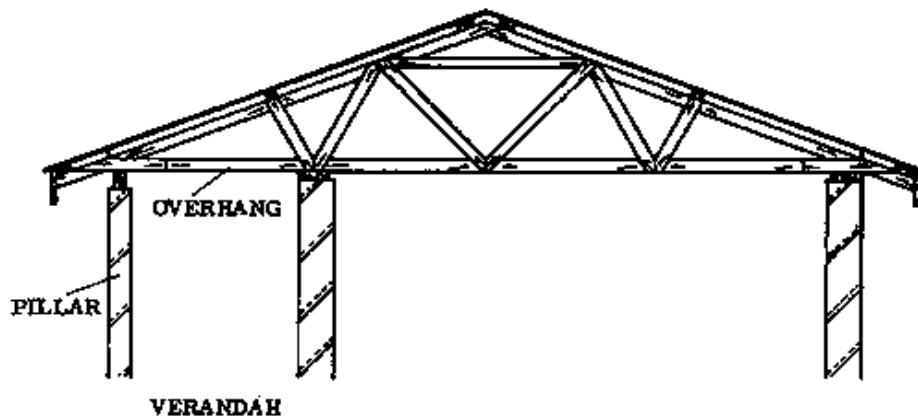

Fig. 1 EXTENDING THE TIE BEAMS
- By extending the tie beams to cover the verandah (Fig. 1)
- EXTENDING THE TIE BEAMS: The part of the tie beam that covers the verandah is called the overhang (Fig. 1). For a small overhang, supporting pillars are not necessary, but it should be braced very well. If the overhang is wide, then pillars are needed to support it (Fig. 1).